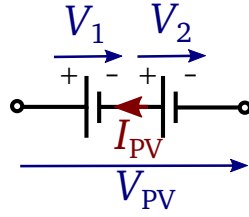

Figure 3: A photovoltaic panel consisting of two cells connected in series.
3. Consider now a photovoltaic panel (PV) consisting of two identical cells arranged in series, as illustrated in Figure 3. Due to partial shading of the PV panel, cell 1 receives the full relative irradiance of $G_1 = 1.0$, while cell 2 receives only $G_2 = 0.1$. Find a reasonable upper bound on the power that can be generated